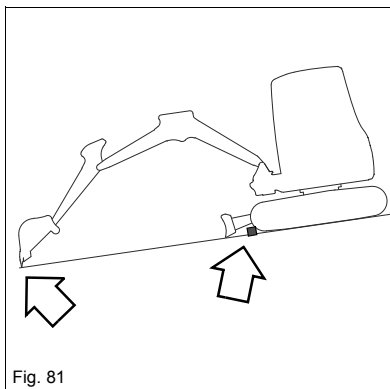

Fig. 81
- Secure the machine with wheel chocks (see Fig. 81).